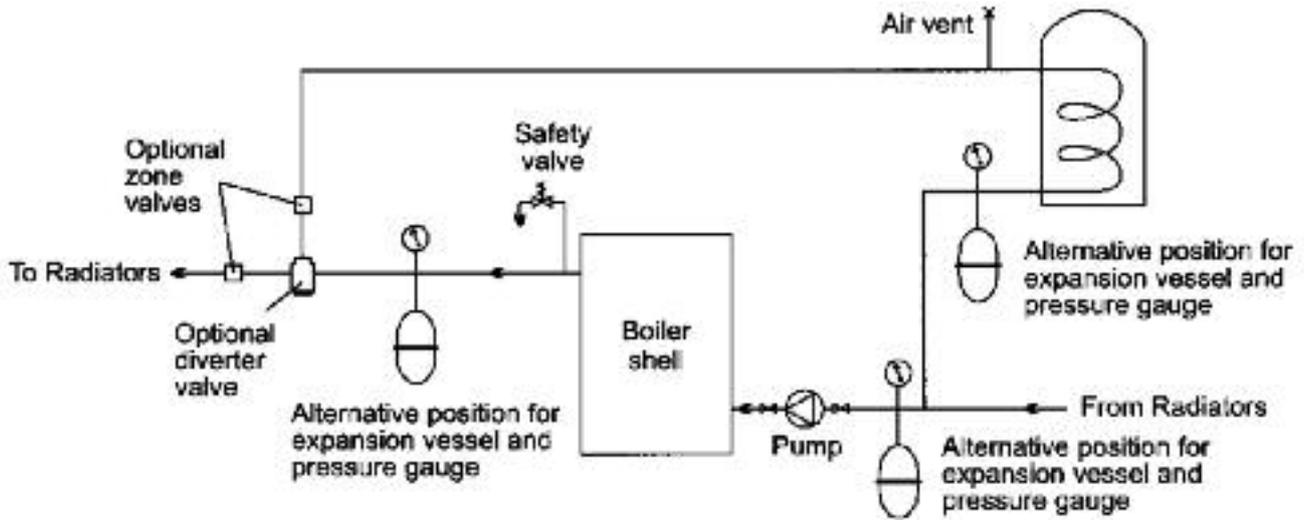

Fig. 8
See Figs. 8, 9 and 10.
3.10.1 Sealed system - (See Fig. 8)
- 3 The expansion vessel can be fitted in either the return or flow pipework in any of the recommended positions as shown in Fig. 8. To reduce the operating temperature of the expansion vessel diaphragm, position it below the pipe to which it is connected. The expansion vessel may be positioned away from the system, providing the connecting pipe is not less than 13 mm diameter.